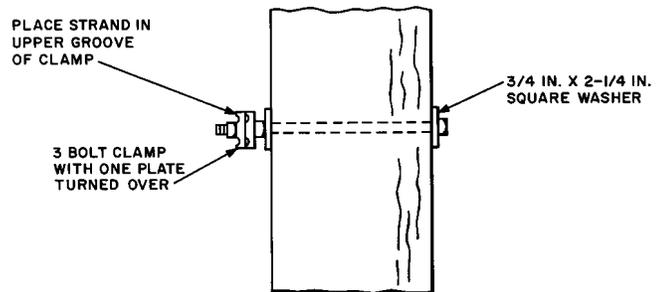

Fig. 3—Attaching Auxiliary Strand to IN-Line Pole
4.06 The auxiliary strand attachments should be located on the same side of the pole as the cable suspension strand, not less than 12 inches below the maximum 60 F sag of the cable suspension strand with the cable in place. Fig. 3 and 4 show the methods of attachment.